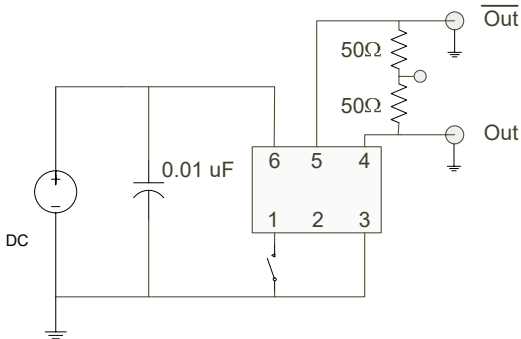

Figure 4. LVDS Test Circuit
- 2] Parameters are tested with production test circuit as shown in Figure 4.